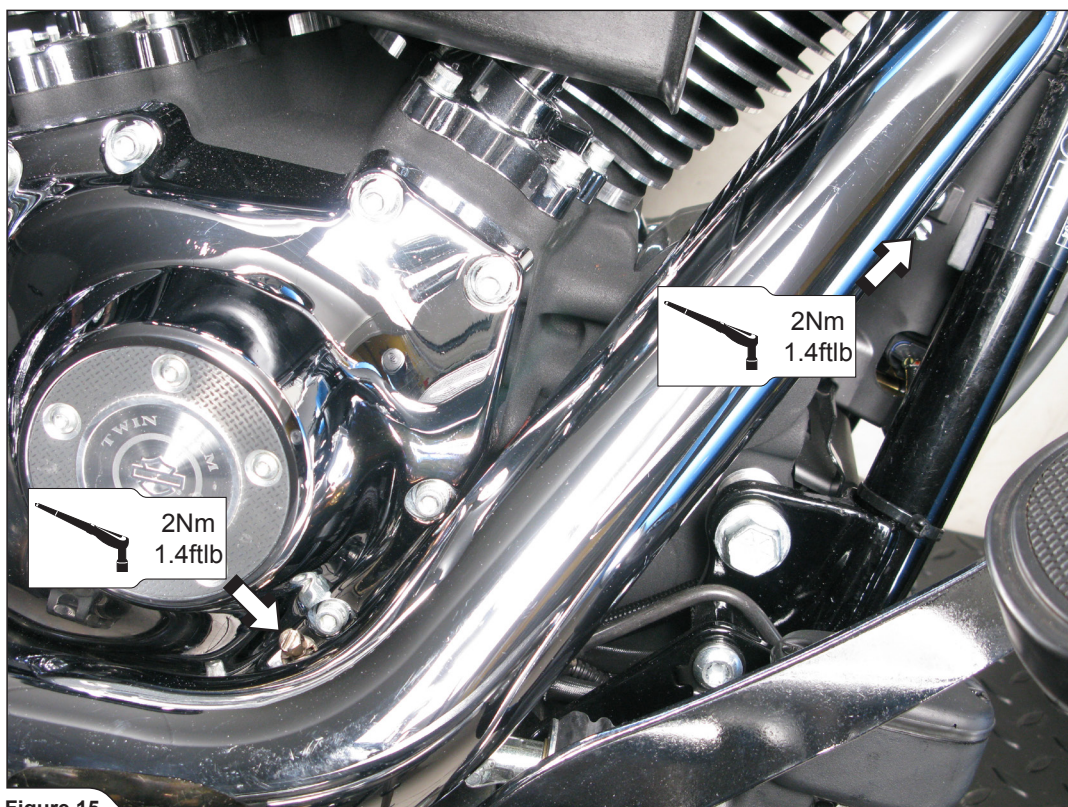

Figure 15
7. Assemble the original heat shields onto the headers, align them in respect to the header tubes and tighten the tape clamps (Figure 15, 16).